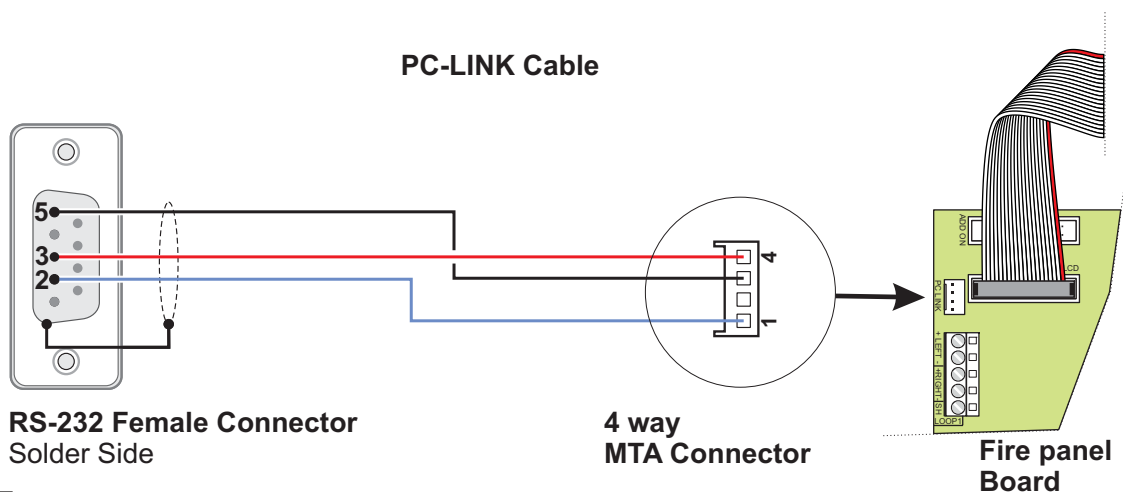

Figure 15 Schematic diagram of the PCLink cable
connect the PCLINK connector of the control panel (see Figure 3, item 40) to a serial port of the PC using the PCLINK cable (accessory item, see Figure 15) or use the USB socket of the control Panel (see Figure 3 item 26) and a USB cable (Type A-A) or the USB BENTEL cable **USB5M** (length 5 m.).